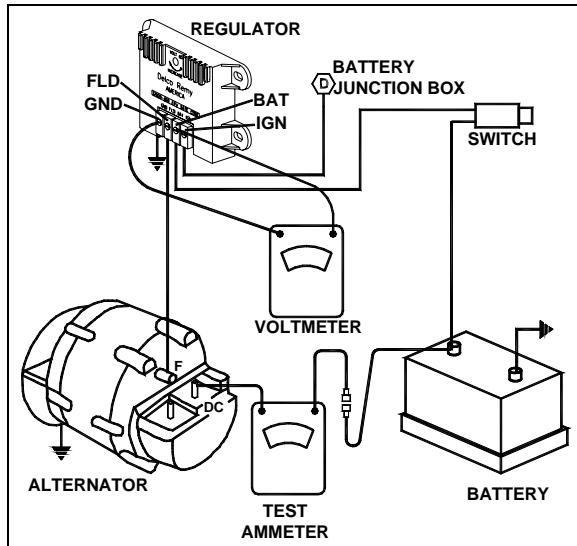

FIGURE 27: REGULATOR VOLTAGE TEST 06416
1. To check the voltage setting, connect a voltmeter across the "POS" and "NEG" terminals on the regulator, and an ammeter to the "C" terminal on the alternator. Refer to figure 27.